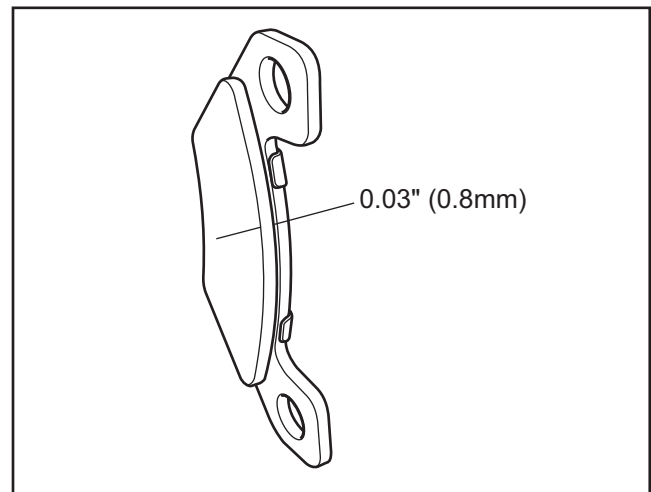

Figure 7-13. Brake pad wear, HDi handbrake pads
- the brake lining material molded to each metal backing plate is worn to 0.03" (0.8 mm) thickness. (Figure 7-13).